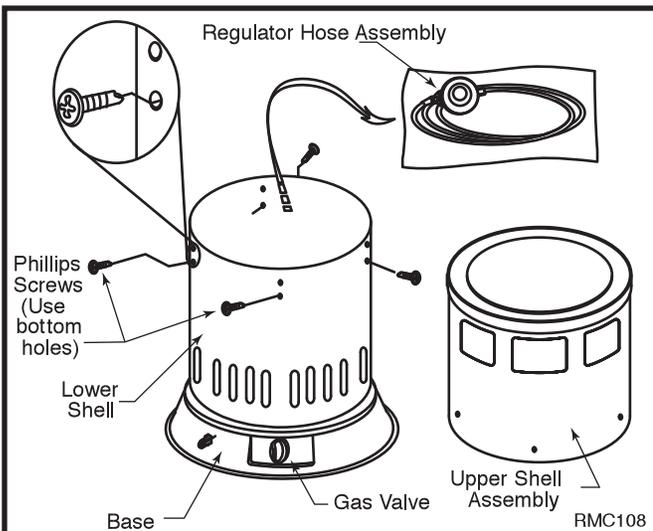

Fig. 3 Remove regulator hose assembly, place four screws in bottom holes at top of lower shell.
5. Screw four phillips head screws in place in bottom hole at top of lower shell. LPC80/200 (Fig. 3)